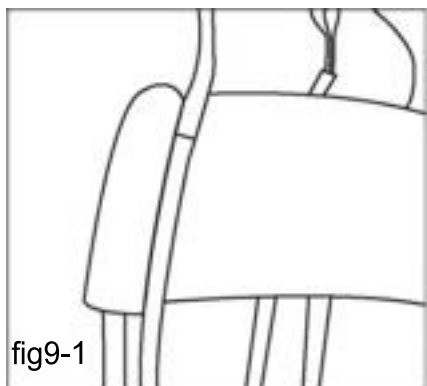

fig9-1
6. Connect the three connector (four connector) and secure the clamp (see Figure 9 and Figure 9-1). The connector should be placed above the mounted plate of indoor unit, and it should be higher than the clamp.